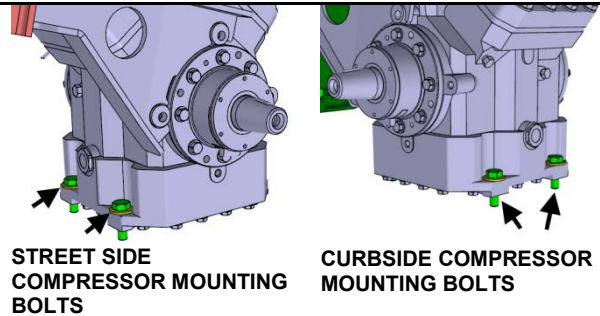

FIGURE 26
32. If bolts **C** & **E** (see two previous steps) are difficult to align in the hole, the compressor may be moved. Loosen the compressor mounting bolts (4x) at the base (see FIGURE 26)